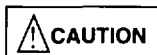

FIG. 25
2. Install the fuel lines on the engine. First, hand tighten the retainer nuts. Next, tighten the nuts using the Caterpillar fuel line socket wrenches to 30 lb.-ft. (41 N•m) of torque (see Fig. 25).